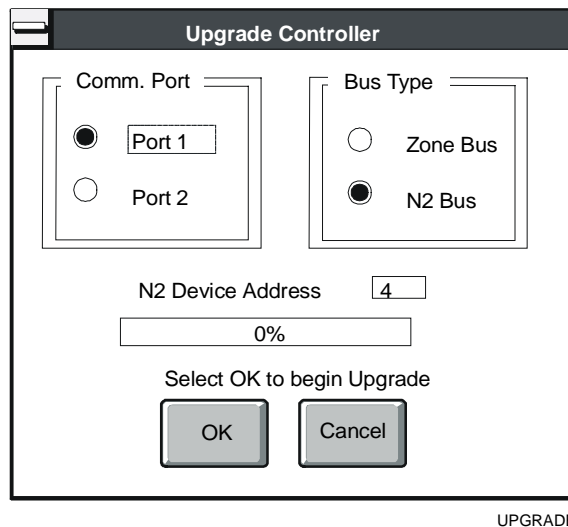

Figure 4-4: Communication Parameter Verification Window
4. Click OK. The Upgrade Controller communication parameter verification window appears (Figure 4-4).